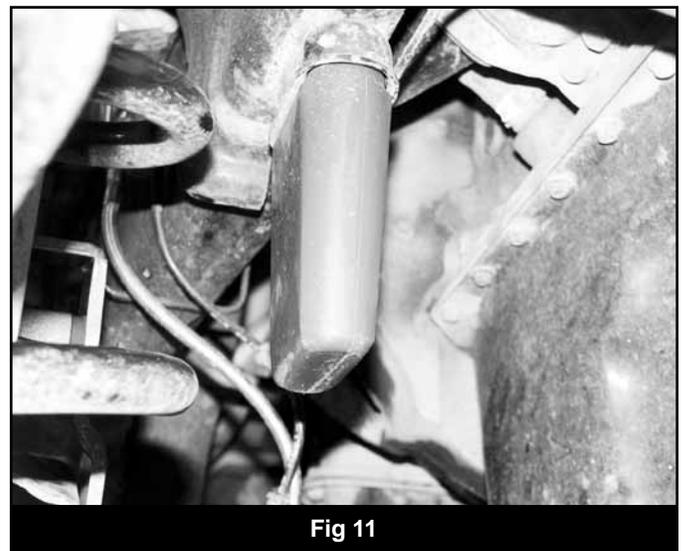

Fig 11
35. Install the new extended bump stops in the original frame mounts. Grease the mounting surfaces to ease installation. (Fig. 11)